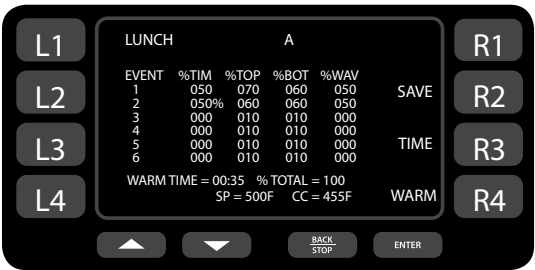

Figure 19: Recipe Edit Screen
5. From the “Recipe Edit” screen (Figure 19), edit the food group name: